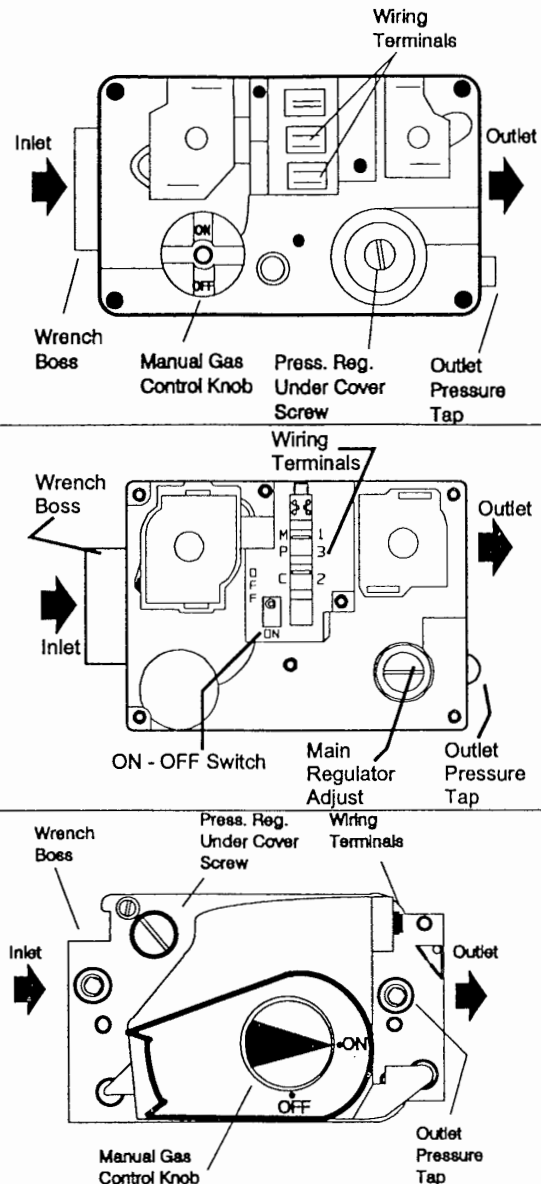

FIGURE 14 - GAS VALVES
- Refer to Figure 14 for location of pressure regulator adjustment cap and screw on main gas valve.